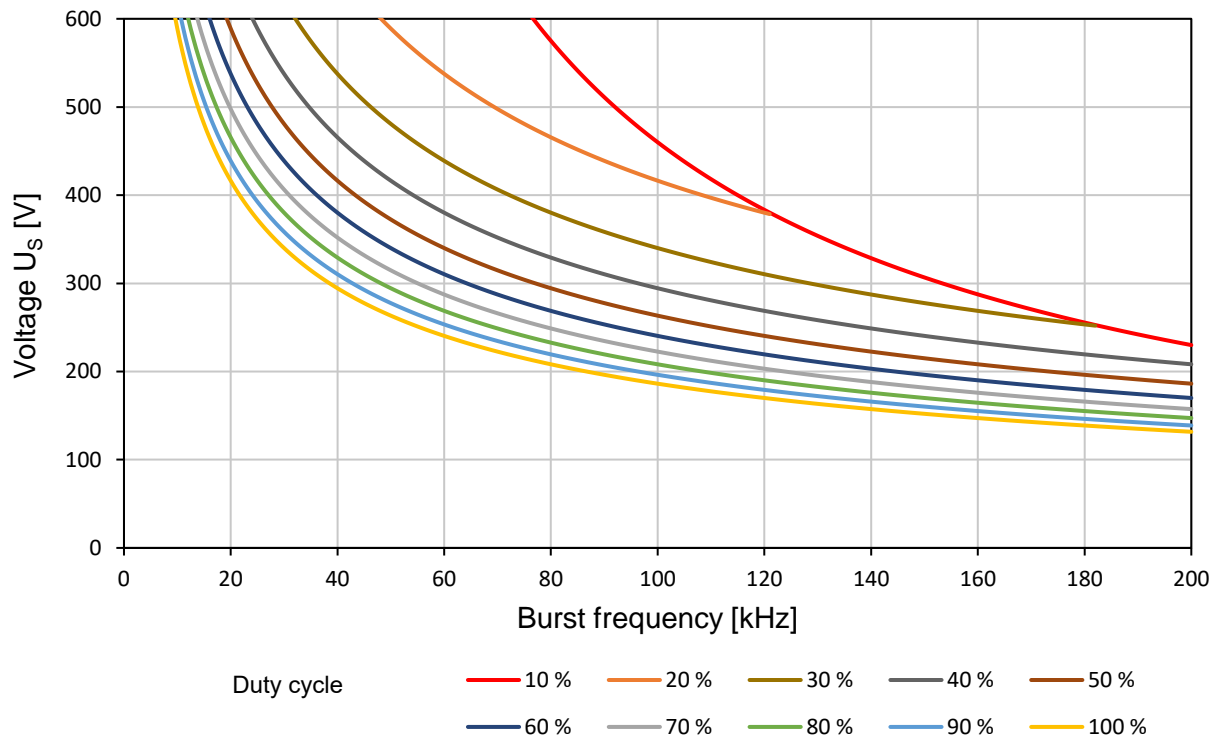

Fig. 17: Voltage as a function of the burst frequency
Burst pulses can be generated with variable frequencies, durations, amplitudes and duty cycles. The duty cycle of a burst is defined as $\frac{t_4}{t_4+t_5}$. Figure 17 shows the maximum voltage as a function of the burst frequency for different duty cycles.
- 2) Value depends on the duty cycle, see Figure 17